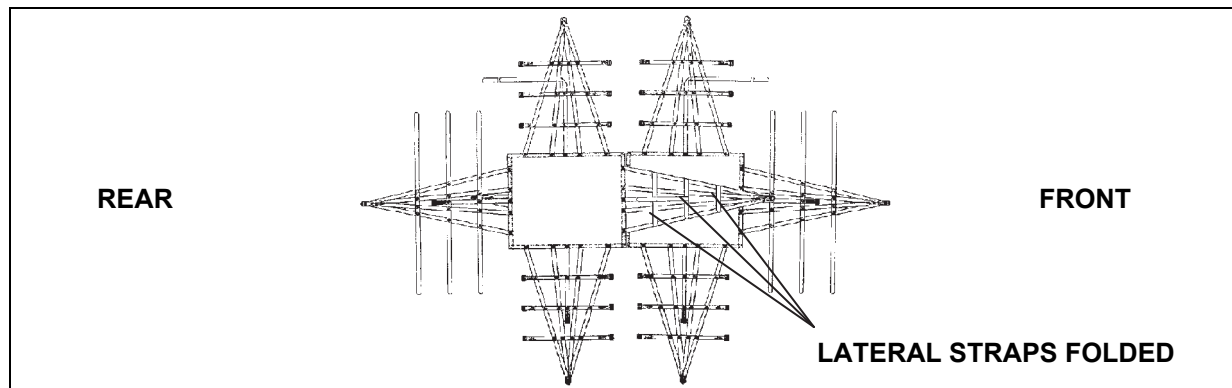

Figure 8-10. Second A-22 Sling Assembly Positioned
- Fold and place all lateral straps on top of the front support web (figure 8-10).